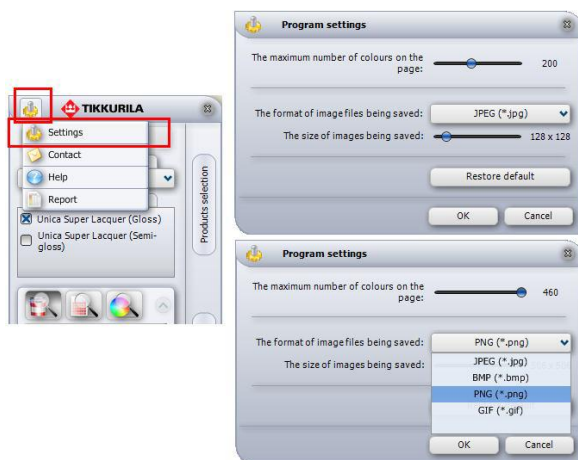

Fig. 236 – changing the settings
- The exemplar settings modification has been illustrated below (Fig. 236).